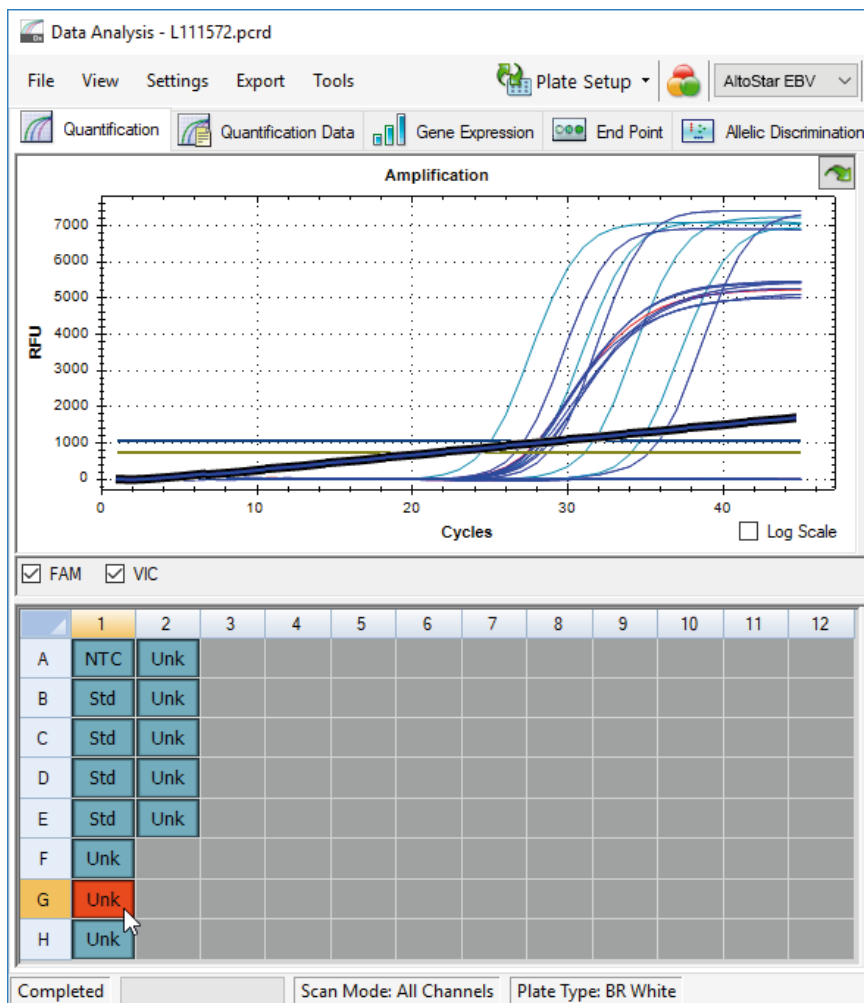

Figure 6: Data Analysis window: irregular PCR signal
- Identify wells with irregular PCR signals (linear signal increase, signal spikes, etc.) in any of the FAM™ (EBV target) and the VIC™ (IC) detection channels (see figure 6).